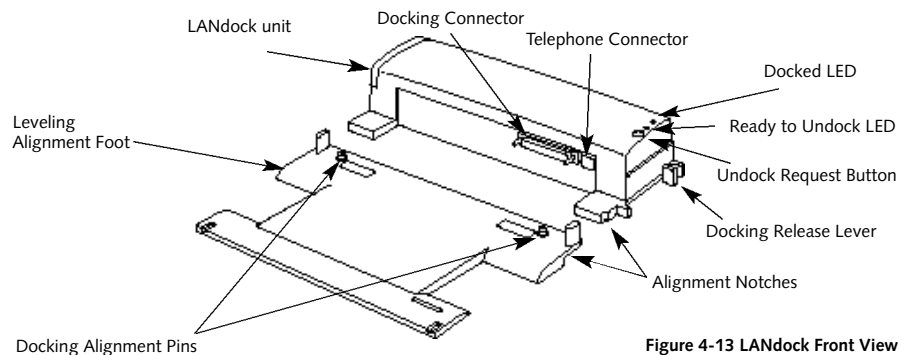

Figure 4-13 LANdock Front View
6. Set your notebook on the Docking Station Leveler, making sure that the Alignment pins on the leveler (Figures 4-13 and 4-16.) fit into the Docking Alignment receptacles in the bottom of your notebook (Figure 1-10 on page 10.)
10. Verify that docking is complete by checking that the LifeBook Docked LED is illuminated. (See Figures 4-13 and 4-16.)